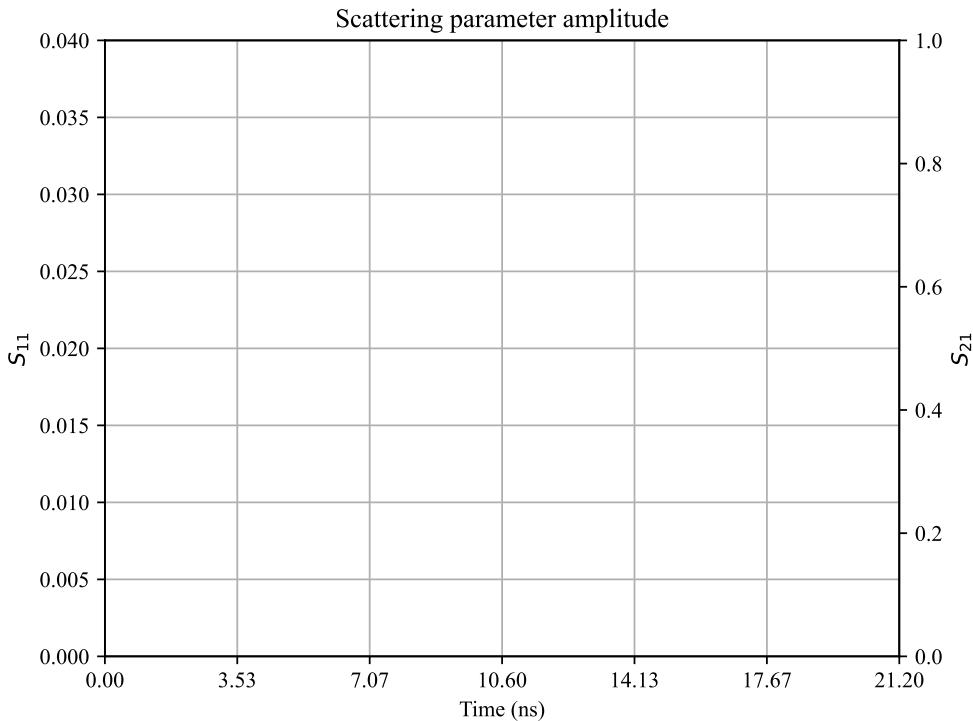

Figure 10: Cable reflection and transmission waveforms (to be completed).
12. (*Lab*) Complete fig. 10 with sketches of the measured waveforms (S_{11} and S_{21}).